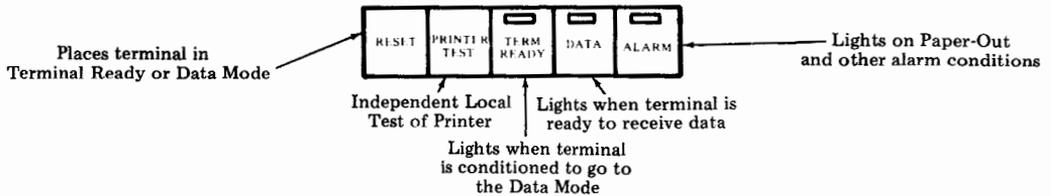

Fig. 5 — RO Operational Controls and Status Indicators
2.17 The keyboard controls and status indicators for the RO are briefly described in Fig. 5.